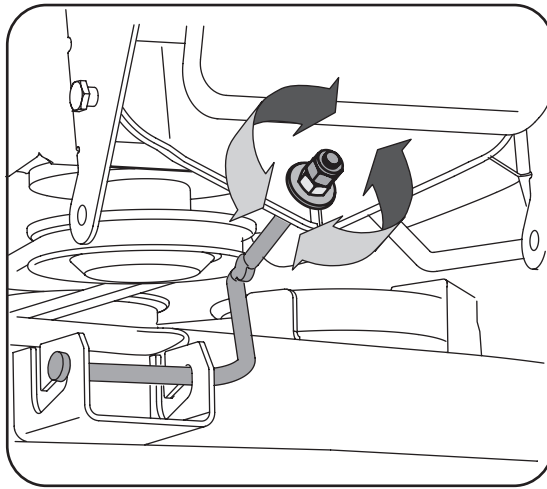

Figure 5-1
3. From the front of the tractor, loosen the hex lock nut on the deck hanger rod, and turn away from the inner hex nut. See Fig. 5-1.